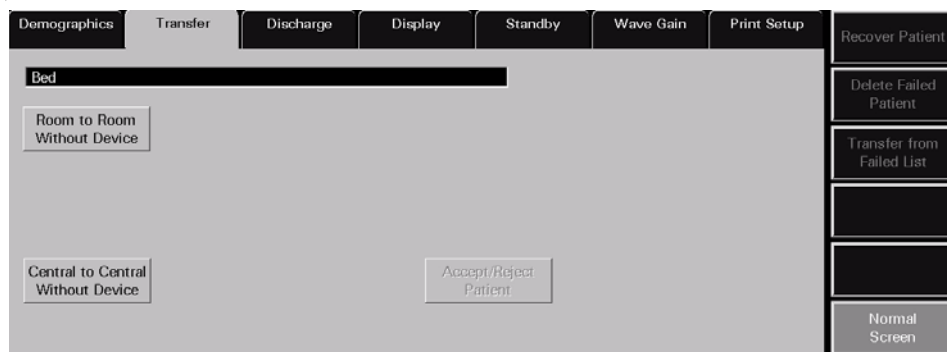

FIGURE 5-14 Transfer Tab
The **Transfer** tab (shown in FIGURE 5-14) enables the transfer of a patient's data from one device to another. Two types of transfers can be performed through the **Transfer** tab:
3. Select the **Transfer** tab. The **Transfer** tab (shown in FIGURE 5-14) is displayed.